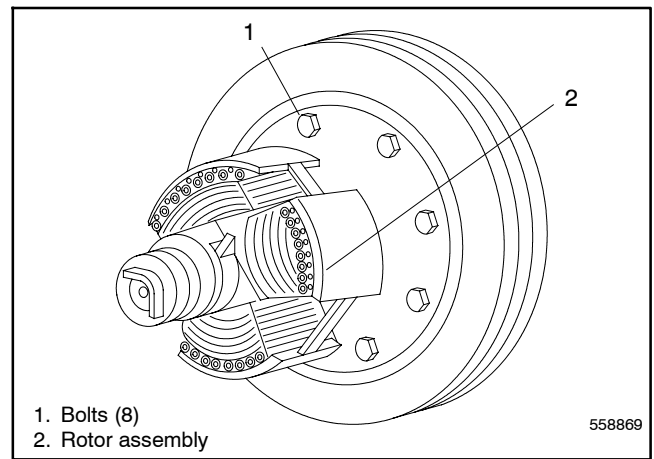

Figure 15-9 Disc/Rotor Assembly
17. Remove the eight bolts and remove the drive disc/rotor assembly from the engine flywheel. See Figure 15-9.